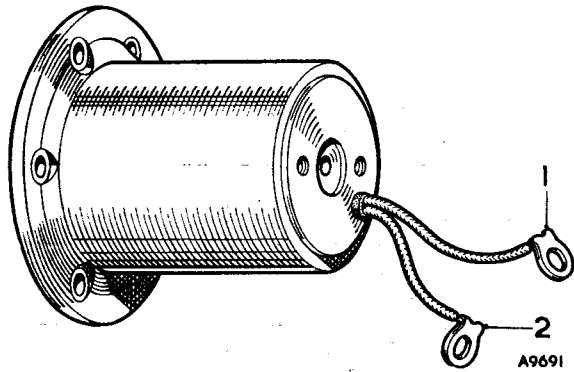

Fig. 1 The coil and housing assembly
1. Clip off the terminal tags (1 and 2, Fig. 1).